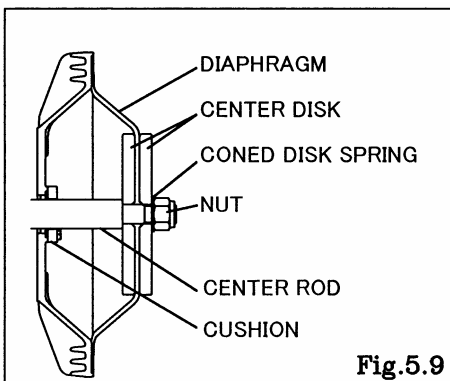

Fig. 5.9
- Fix a double nut to one end of the center rod and take the diaphragm and center disk off the opposite end. [Fig.5.9] Be careful not to scratch or score the center rod.
- Insert the cushion (except with the NDP-80). (cf. Fig.5.9)
- Draw the center disk to one side (exclude B\_H, B\_S type cf. Fig.5.9).